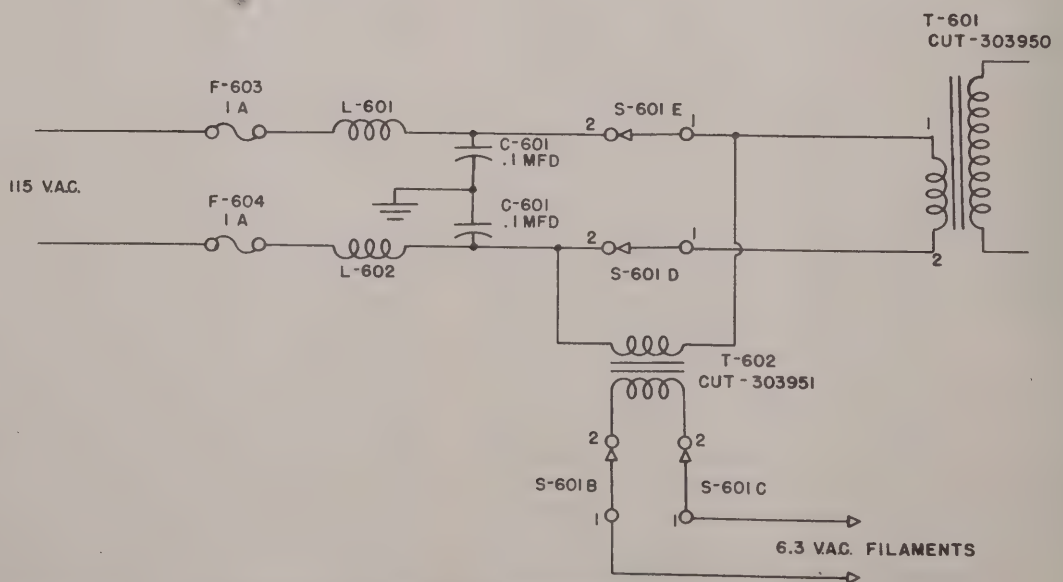

Figure 2-4. Simplified Schematic, Power Supply PP-287/U, Primary Circuit, 115 VAC Operation
(1) This power supply provides 250 and 1,000 VDC and 6.3 V. a. c. or d. c. to operate Field Intensity Meter TS-318/UP or TS-635/UP from a single phase power source supplying 104.5 to 120.5 VAC at 60 ± 3 cycles or from the 6-volt storage battery contained in the power supply carrying case. Facilities are also provided for operating this unit from an external 6 VDC source when necessary.
(2) OPERATION FROM 115 VAC. — With switch S-601 in the "115 VAC" position, primary winding 1-2 of transformer T-601 is energized through switch sections S-601E and S-601D, fuses F-603 and F-604, and RF filter chokes L-601 and L-602. These chokes are bypassed to ground by C-601 forming an RF filter. Filament voltage, 6.3 VAC, is supplied to pins B and F on J-602 and the filament terminals of the low voltage rectifier tube, V-602, through the filament transformer, T-602, and switch sections S-601B and S-601C. (See figure 2-4.)